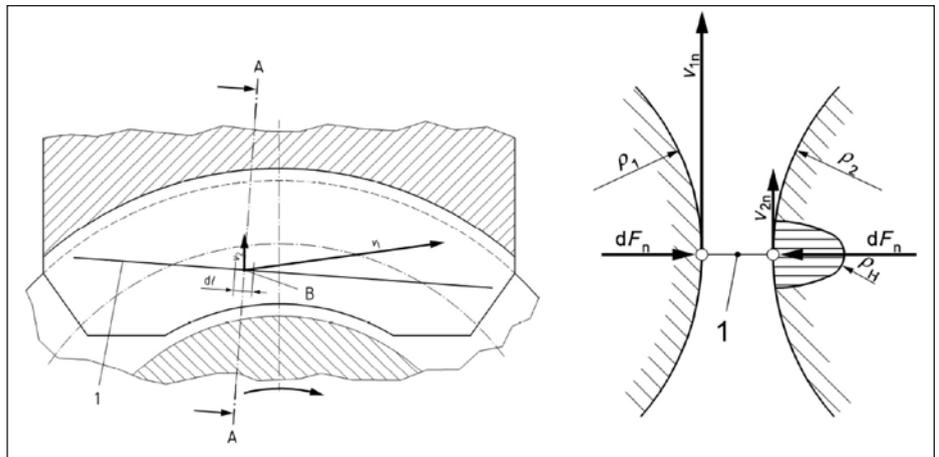

Figure 2 Contact line on a worm wheel and Section A-A normal to the contact line 1.
**Method B:** based on numerical determination with a detailed study in each point of the lines of contact in terms of radius of curvature, sum sliding velocity in the normal direction, and mean local sliding path (Fig.2).